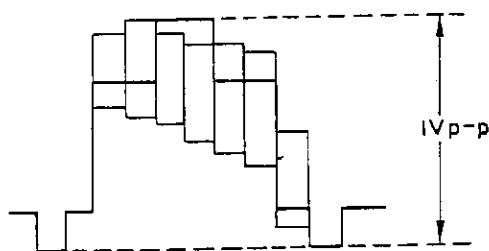

Figure 42
2. Observe the output of TP-401 on the oscilloscope (internal trigger), and adjust R488 (playback level control) so that the resultant waveform will be as shown in figure 42.